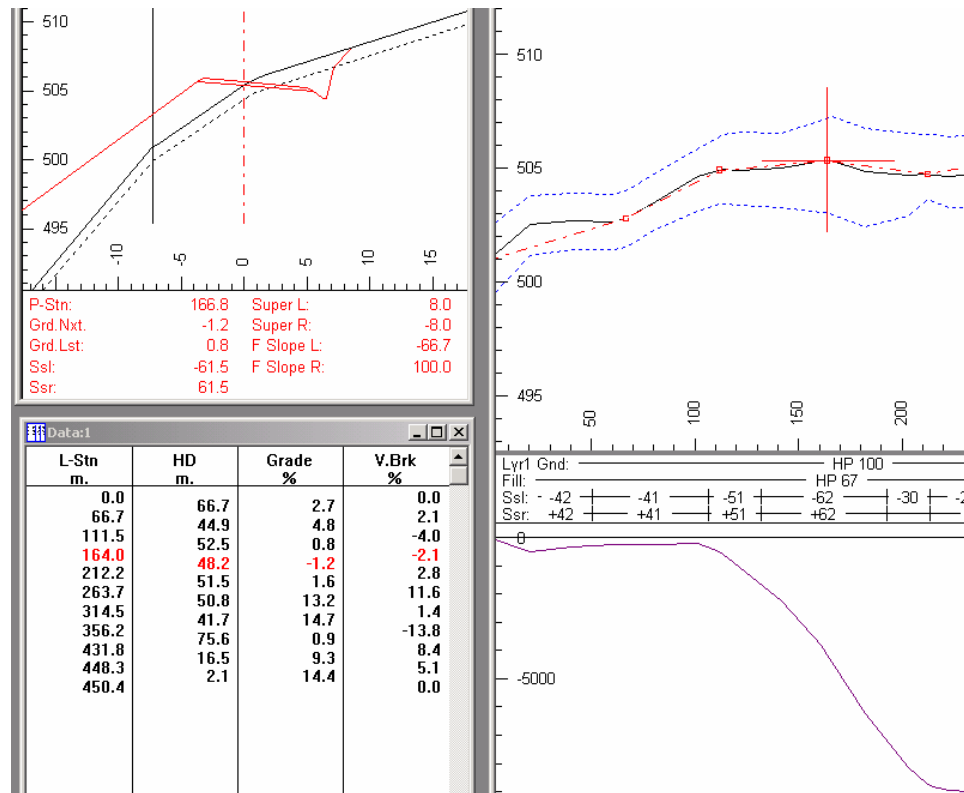

Figure 4.18: Excessive Fill Before Vertical Alignment
4. Use the *Next IP*  button in the Vertical Curves panel to move along the alignment. Watch the Section window and keep moving until you get to station 164 (see Figure 4.18).